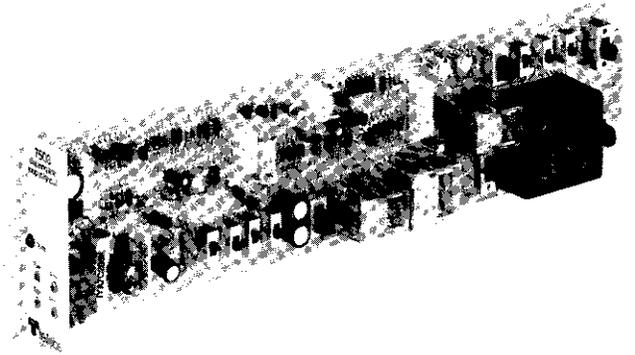

Figure 1. 7503 Dial Long Line module
1.01 The 7503 Dial Long Line module (figure 1) regenerates signaling and supervision to increase the range of a **loop-start** or **ground-start** CO or PBX line circuit in applications where a station served by a metallic facility is located beyond the normal range of the switching equipment. An integral repeat coil extends a separate source of locally derived loop current toward the station. On calls to the station, the 7503 bypasses ringing generated at the switching equipment or repeats ringing (starts and applies local ringing generator), as selected by switch option. When the station answers, the 7503 trips ringing. On calls from the station, the 7503 detects and regenerates off-hook states and repeats dial pulsing. Additionally, in ground-start operation, the 7503 detects and repeats the tip-ground and ring-ground states used on ground-start circuits.